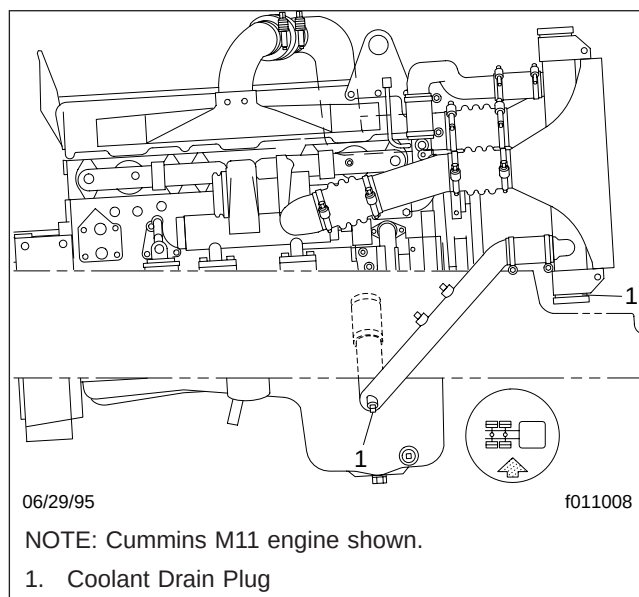

Fig. 3, Coolant Drain Plug Location
4. On Century Class Conventionals, remove the drain plugs located at the radiator side tank and at the lower radiator outlet pipe elbow. See Fig. 3. Allow the coolant to drain.